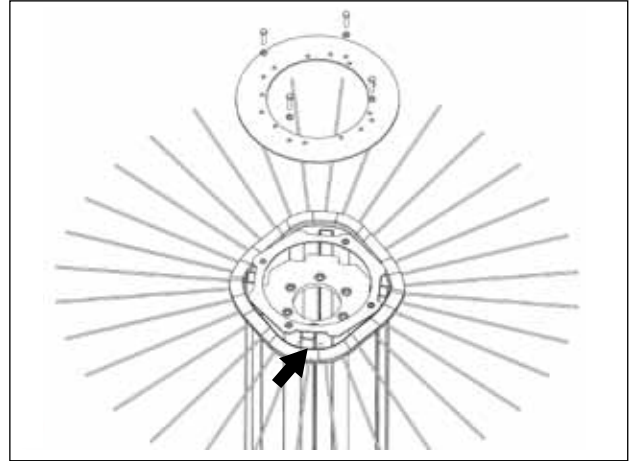

figure 2
- a. Slide the first section onto the core with the drive pins on each side of a tube. Make sure that the drive pins angle up. (figure 2)